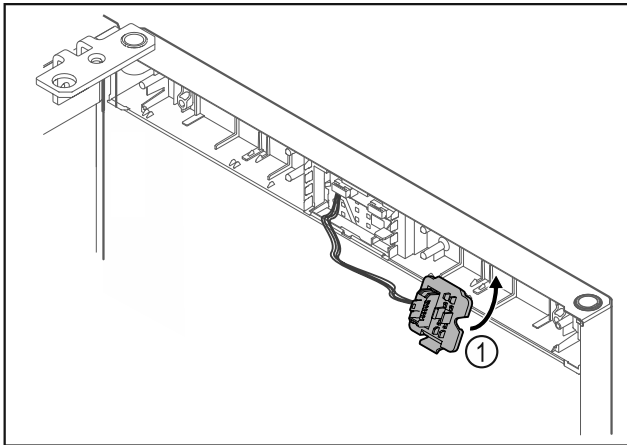

Fig. 19
- Snap in the plug holder Fig. 19 (1) on the opposite side.